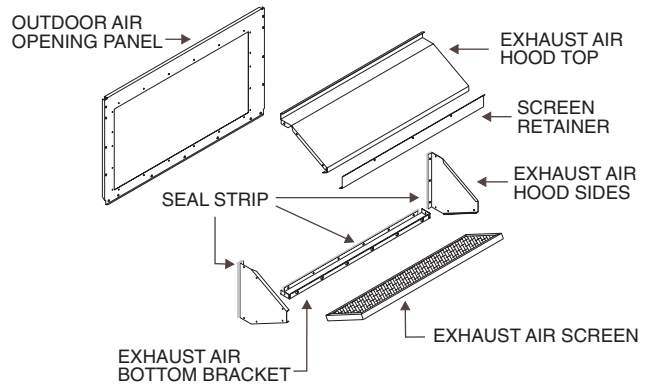

Fig. 33 — Exhaust Air Hood Assembly
Remove the EconoMiSer hood from its packaging. Locate the outdoor air opening panel. See Fig. 33. Remove the hood assembly shipping brackets located on the back (sloped) side of the EconoMiSer assembly. These brackets are used to retain the hood assembly during shipping only.
3. Install the $\frac{1}{8} \times \frac{3}{4}$ in. seal strip on the exhaust air hood side panels and the bottom bracket. Assemble the exhaust air hood to the outdoor air opening panel as shown in Fig. 33, using the screws provided. *Do not attach hood assembly to unit at this time.*